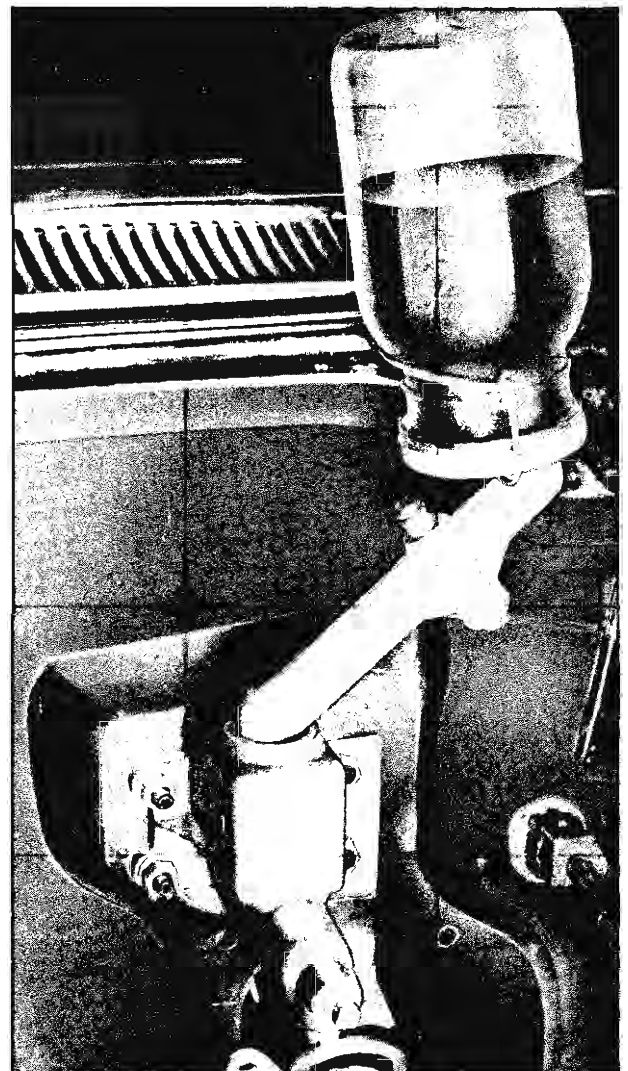

Fig. 6—Filling Main Cylinder Reservoir
2. Install Tool J-0713 (fig. 6).